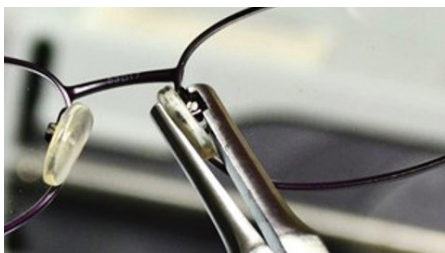

FIG. 10
**Nosepads:** You can change the frame's position on the patients' face by adjusting the nose pads using nosepad pliers (Fig. 10). Move the nose pads closer together to raise the frame.